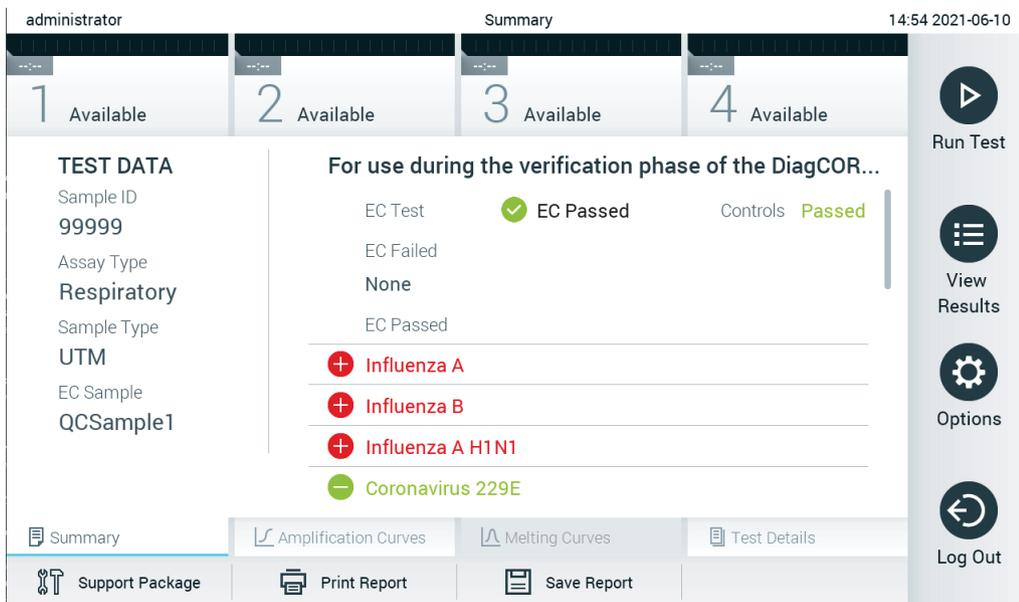

Figure 96. EC Results Summary screen.
12. After the QIAstat-Dx assay cartridge has been ejected, the results **Summary** screen will appear (Figure 96). Refer to Section 8.3 for further details.